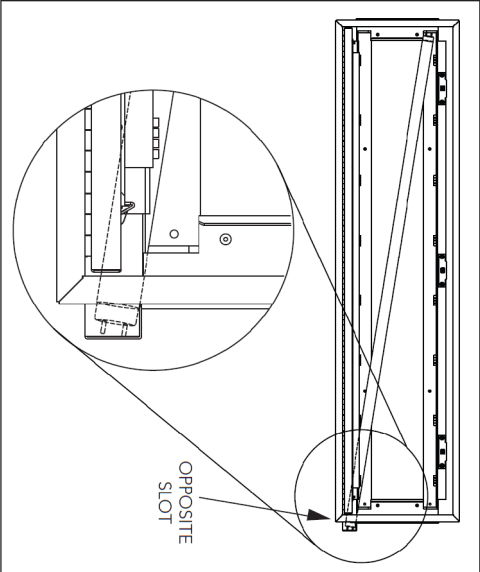
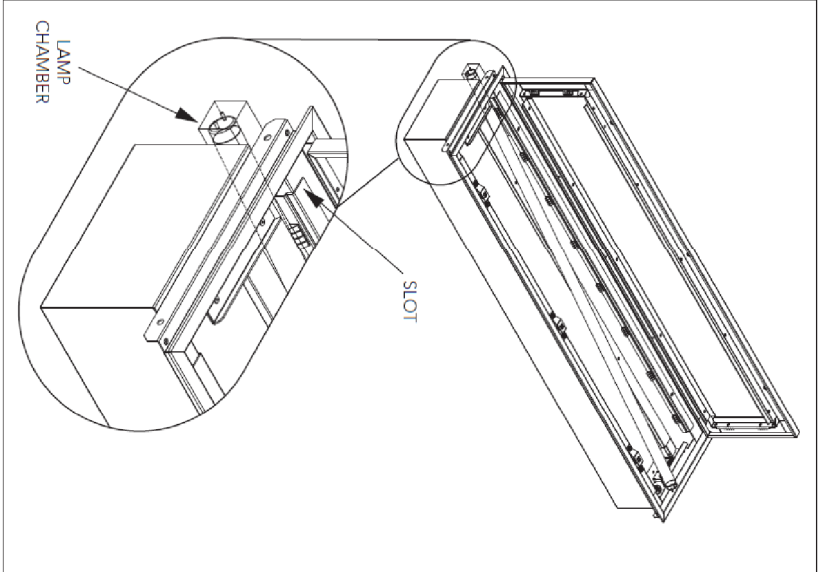

Figure 7
Figure 8
- Lamp Removal: Start with one of the outside lamps and remove one lamp at a time. Twist lamps ¼-turn and slide out of sockets. Insert one end of lamp into the lamp chamber holes at end of housing near the corner (See Figure 8). Angle the opposite end (free end) of the lamp so it is diagonal across the fixture. Slide contact pins, of the free end, out of fixture through slot at fixture opening in corner as shown in Figure 7. Lamp is now freely removed.
- Lamp Installation: Start with one of the outside lamps and install one lamp at a time. The last lamp to install should be the other outside lamp (install middle lamp as the second lamp). Insert one end of lamp into the lamp chamber at end of housing near the corner (See Figure 8). Angle the opposite end (free end) of the lamp so it is diagonal across the fixture as shown in Figure 7. Slide contact pins, of free end, into fixture through slot at fixture opening in corner (See Figure 7). Slide lamp pins into sockets and twist lamps ¼-turn to lock in place.